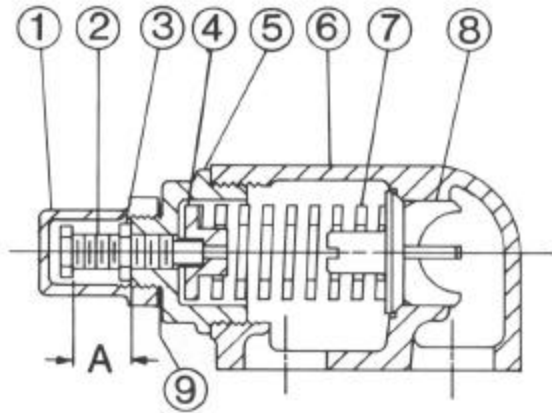

FIGURE 13
2. Measure and record length of extension of adjusting screw. Refer to "A" on Figures 13 and 14.